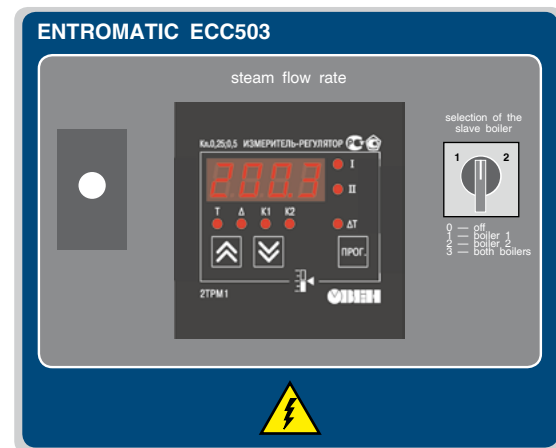

Fig. 14. Appearance of CCM ECC503
- setting the cascade sequence by means of changeover switch located on the front panel (see Fig. 14).